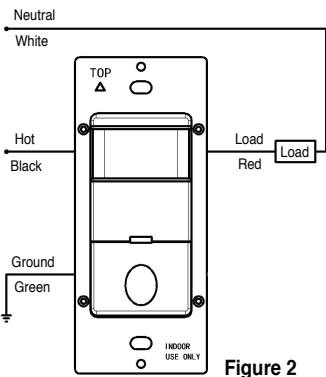

Figure 2
1. Connect lead wires as **WIRING DIAGRAM** (see **Figure 2**): Black lead to Line(Hot), Red lead to Load wire, Green lead to Ground.